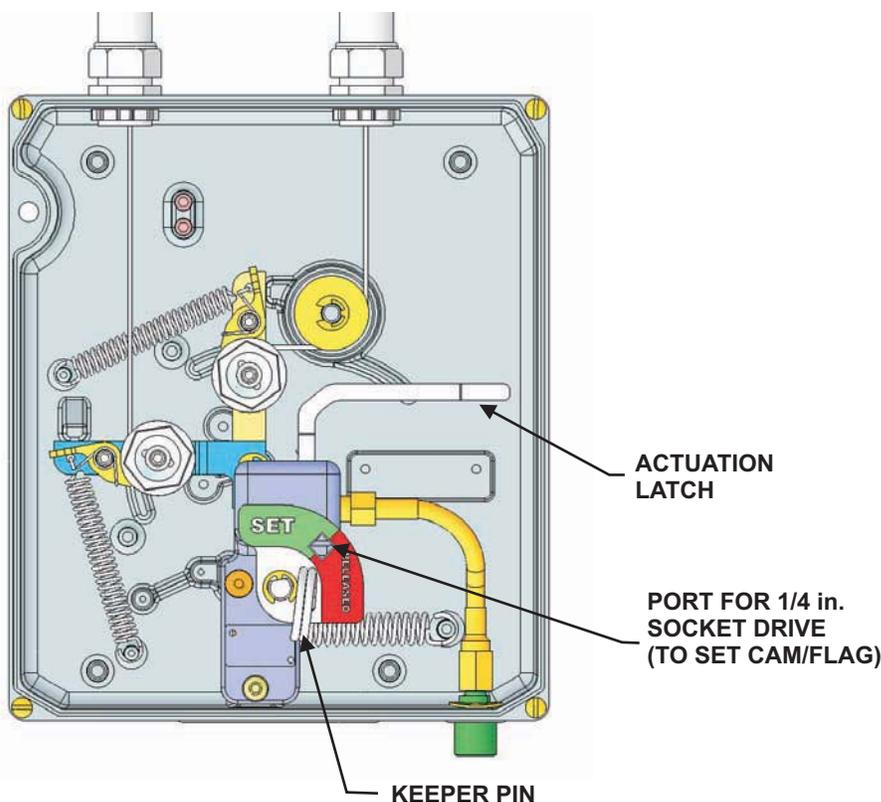

Figure 5-9. Actuation Latch Shown in 'Set' Position
- d. When the two detection lines are set, the actuation latch will automatically fall into a horizontal position. It is possible to set the Cam/Flag, if it is not already locked in place. Rotate the Cam/Flag 90° clockwise until it clicks into place. The actuation latch will move up, then reset into the horizontal position (see Figure 5-9).